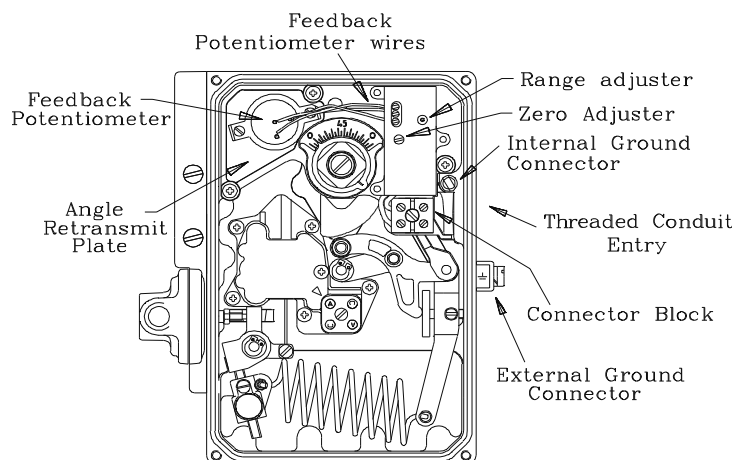

FIGURE 7. ANGLE RETRANSMIT.
4.4.2 Remove positioner cover and undo the three M4 screws retaining the red retransmit plate, as shown in Figure 7. Loosen the central coupling screw sufficiently to pull the coupling complete with the retransmit assembly off the actuator connection.
6.1.2 Remove positioner cover and unscrew the three M4 screws retaining the red retransmit plate, release the two wires on the terminal block connected to the DIN plug (if fitted), as shown in Figure 7, and carefully remove coupling and retransmit assembly as one unit.
6.2.2 Remove positioner cover and undo the three M4 screws retaining the red retransmit plate, release the two wires on the terminal block connected to the DIN plug (if fitted), as shown in figure 7. Loosen the central coupling screw sufficiently to carefully pull the coupling complete with the retransmit assembly off the actuator square.
6.3 Zero and Range Adjustment (refer to Figure 7).
6.4.2 Remove positioner cover and undo the three M4 screws retaining the red retransmit plate, release the two wires on the terminal block connected to the DIN plug (if fitted), as shown in figure 7. Loosen the central coupling screw sufficiently to pull the coupling complete with the retransmit assembly off the actuator connection.